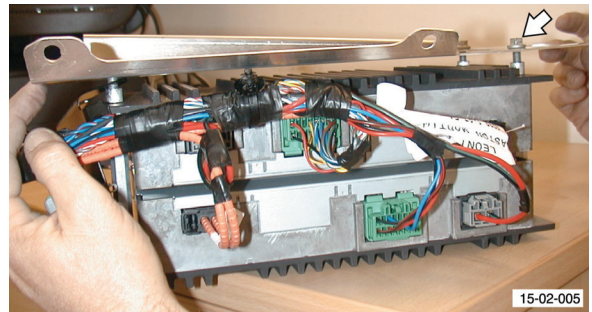

Fig. 3
12. Remove bolts (x4) that secure subwoofer amplifier to mounting plate and remove amplifier (see Fig. 3).